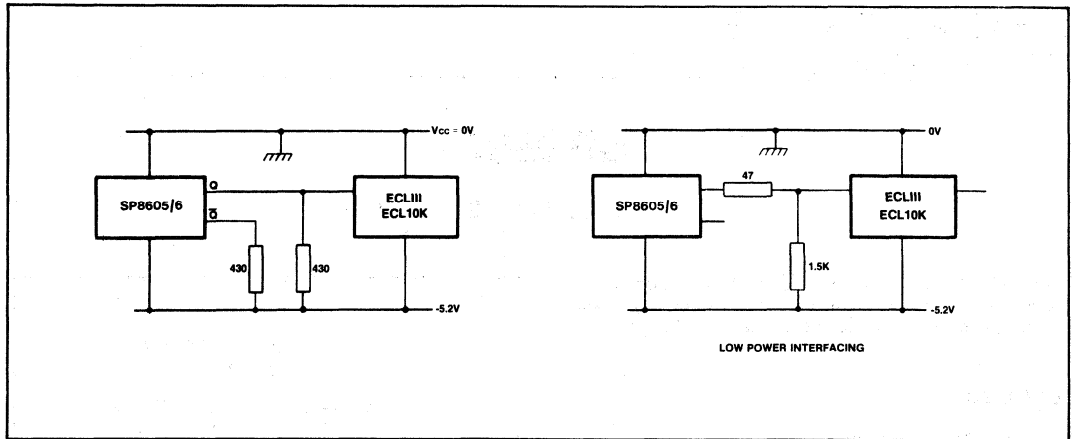

Fig.7 Interfacing SP8605/6 to ECL 10K and ECL III
5. The emitter follower outputs require external load resistors. These should not be less than 330 ohms, and a value of 430 ohms is recommended. Interfacing to ECL III/10K is shown in Fig. 7.